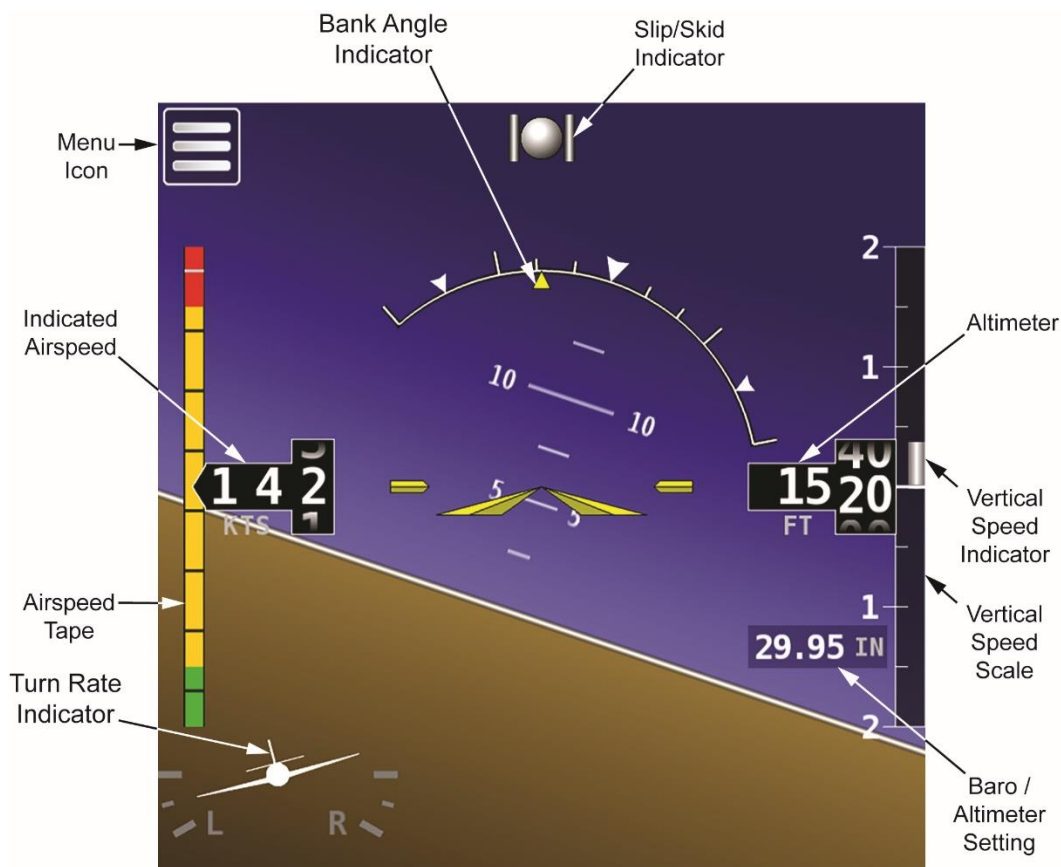

Figure 1: Flight Indications
The D30 provides the flight indications listed below. See Figure 1 for locations of the D30's flight indications; see section 7: System Overview for detailed information about indicator markings.
1. Touch the Menu icon (Figure 1). Main Menu is displayed.
1. Touch the Barometer / Altimeter Setting indicator (Figure 1). The Altimeter Setting tool appears.